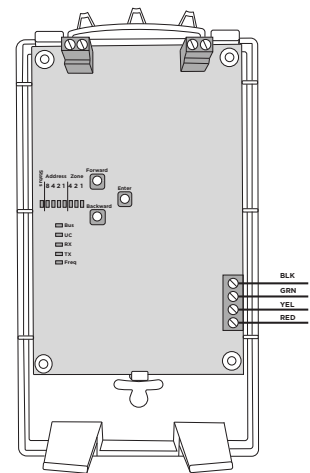

Figure 3: PCB Features and Wiring Connections
5. Insert the included antennas into the **Antenna** terminals at the top of the PCB. See Figure 3. Tighten the screws until the antennas are secured in place.
2. Connect the wires to the translator's terminals. See Figure 3.